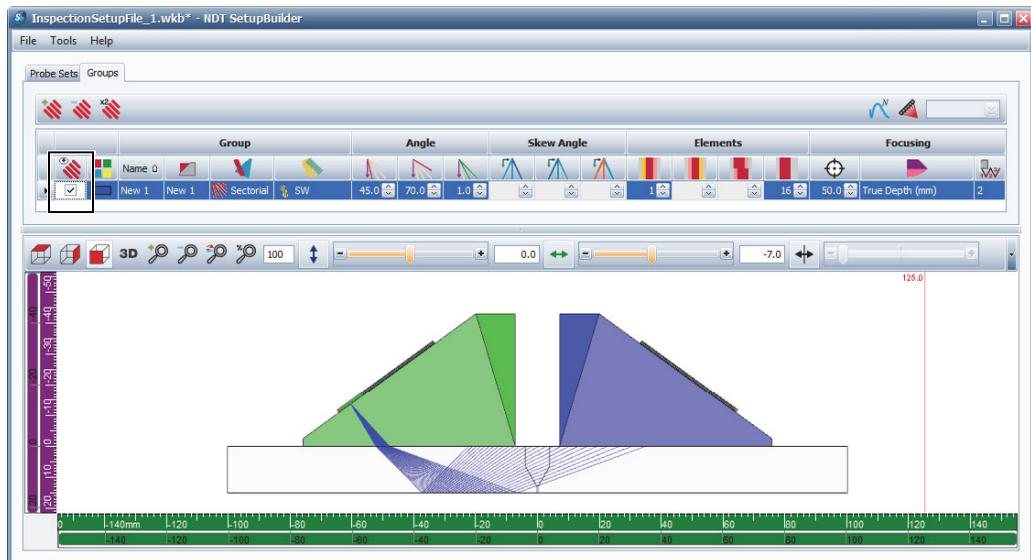

Figure 10-9 The Groups tab with a group's visibility check box selected (in the far-left column)
On the **Groups** tab, a group's visibility can be set independently from the probe-set visibility by using the check box in the **Visible** column () on the left-hand side of the parameter table (see Figure 10-9 on page 144). By default, a group is visible upon creation.
1. In the list under the **Groups** tab, select the group for which you want to set the visibility (see Figure 10-9 on page 144).